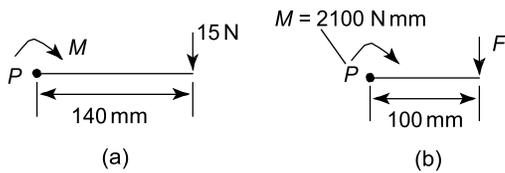

Figure 5.2
From above, $M = F \times d$, where M is the turning moment, F is the force applied at right angles to the spanner and d is the effective length between the force and the centre of the nut. Thus, with reference to Figure 5.2(a):
- becomes 100 mm (see Figure 5.2(b)). Applying